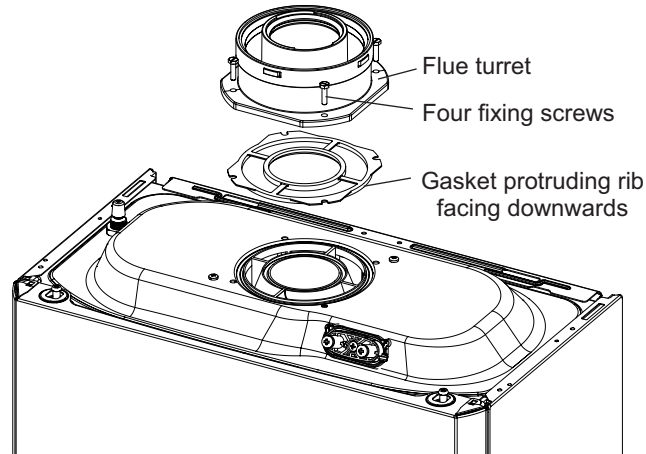

Fig. 5.5
5.6 FIT THE FLUE TURRET - Figs. 5.5 and 5.6
2. Place the flat concentric gasket onto the boiler, ensuring the protruding 60mm rib is facing downwards and located correctly. See Figs. 5.5 and 5.6.
5.7 FIT THE FLUE - Figs. 5.5 and 5.6